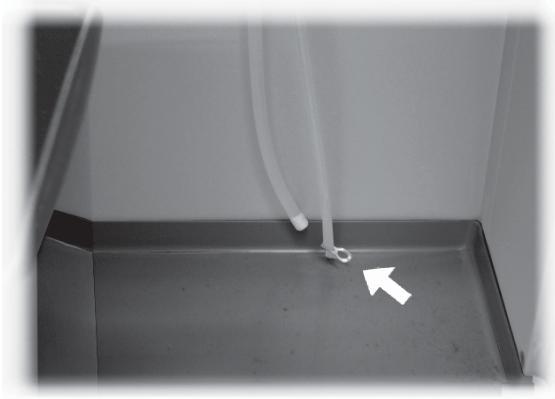

Fig. 95
- drain the water pipe. Remove the spring from the pipe (Fig. 95) and channel the water into a container. After draining the pipe completely, fit the spring back into its original position;